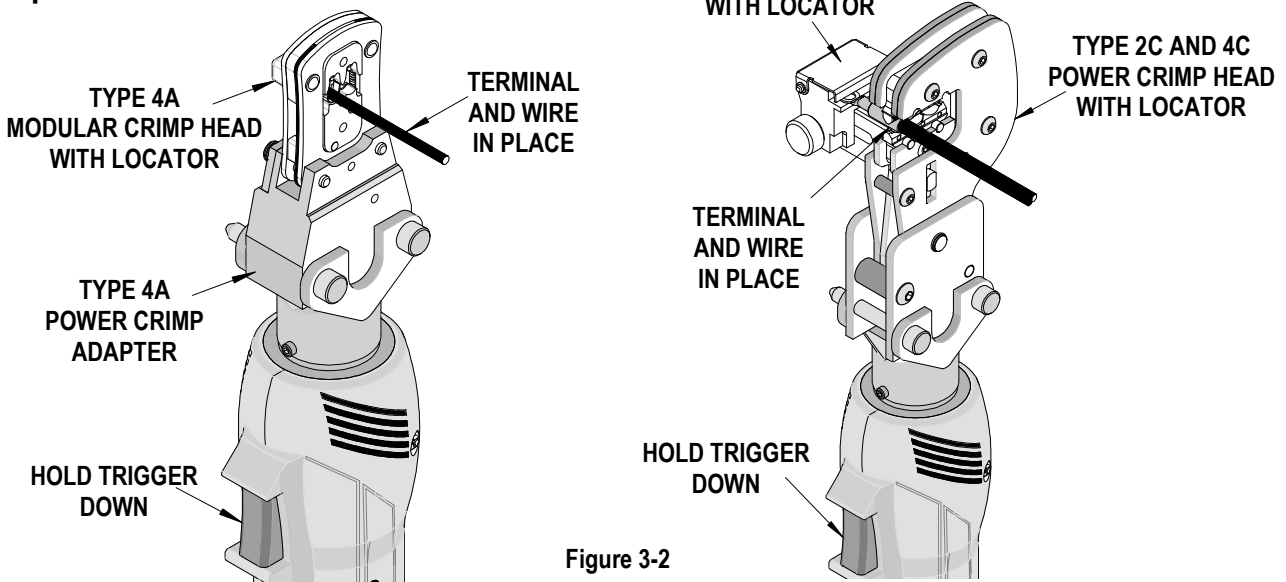

Figure 3-2
1. Insert the proper terminal or connector into the tooling nest and push on the trigger in the handle just enough so the dies contact the terminal or connector securely. Release the trigger. This allows the operator to make adjustments to the connector before the final termination. See Figure 3-2.